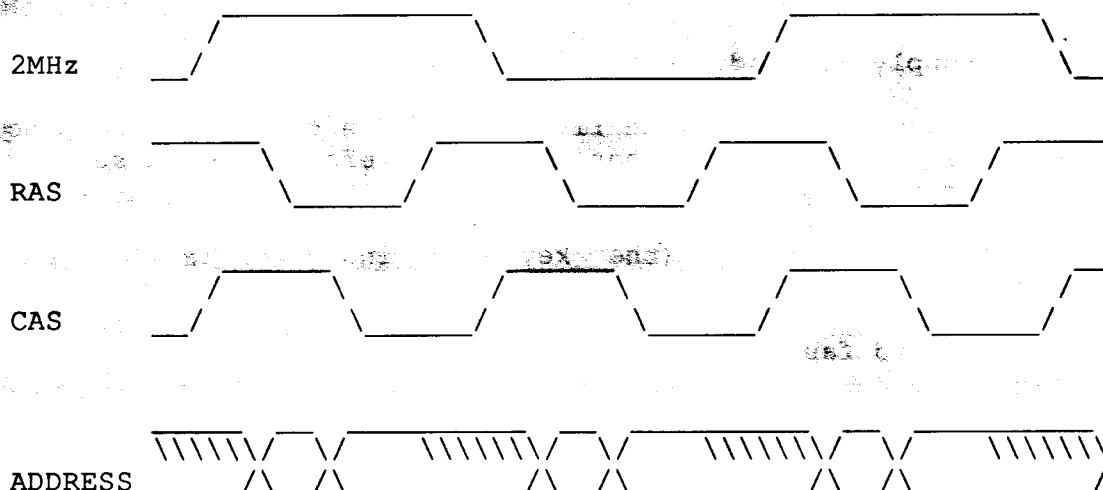

Figure 8 DRAM timing
The main DRAM timing is shown in figure 8
- 3 Check that the address at the DRAM inputs is stable for at least 15ns after RAS goes low and changes no later than 50ns after that edge, see figure 8. This should occur once for every active high period of the system 2MHz clock out of the VIDPROC and once for every active low period.
2 Check RAS and CAS at the DRAMs, see figure 8.